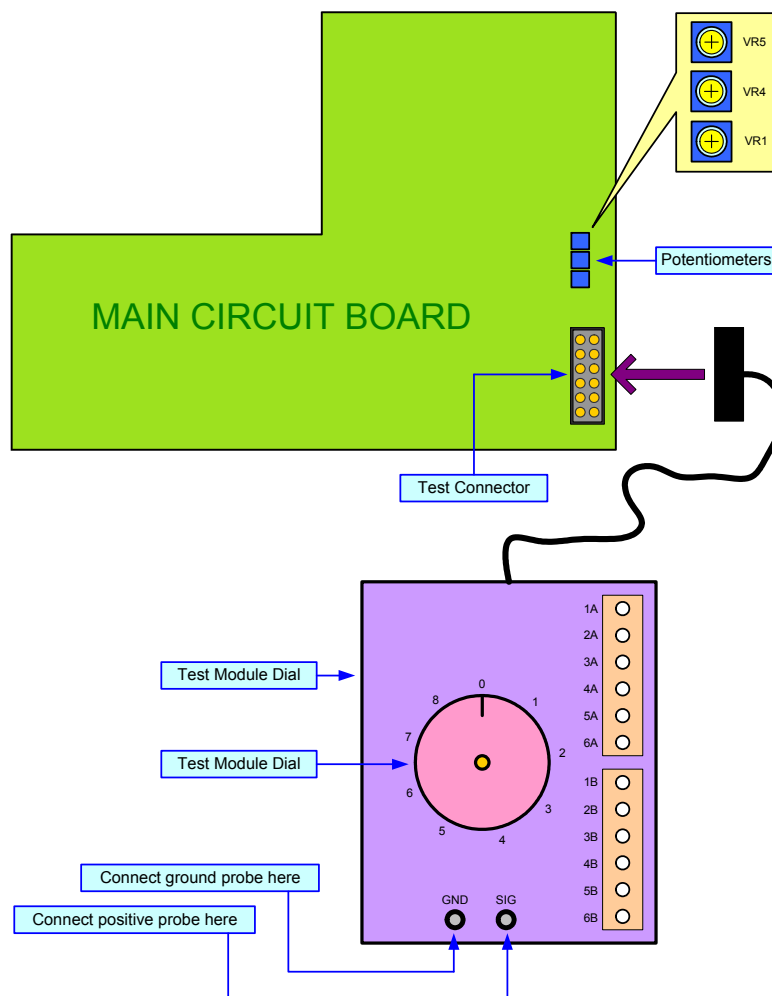

Figure 6-1, Test Module Usage
2. Connect the Test Module to the available test connector on the main circuit board (Figure 6-1).